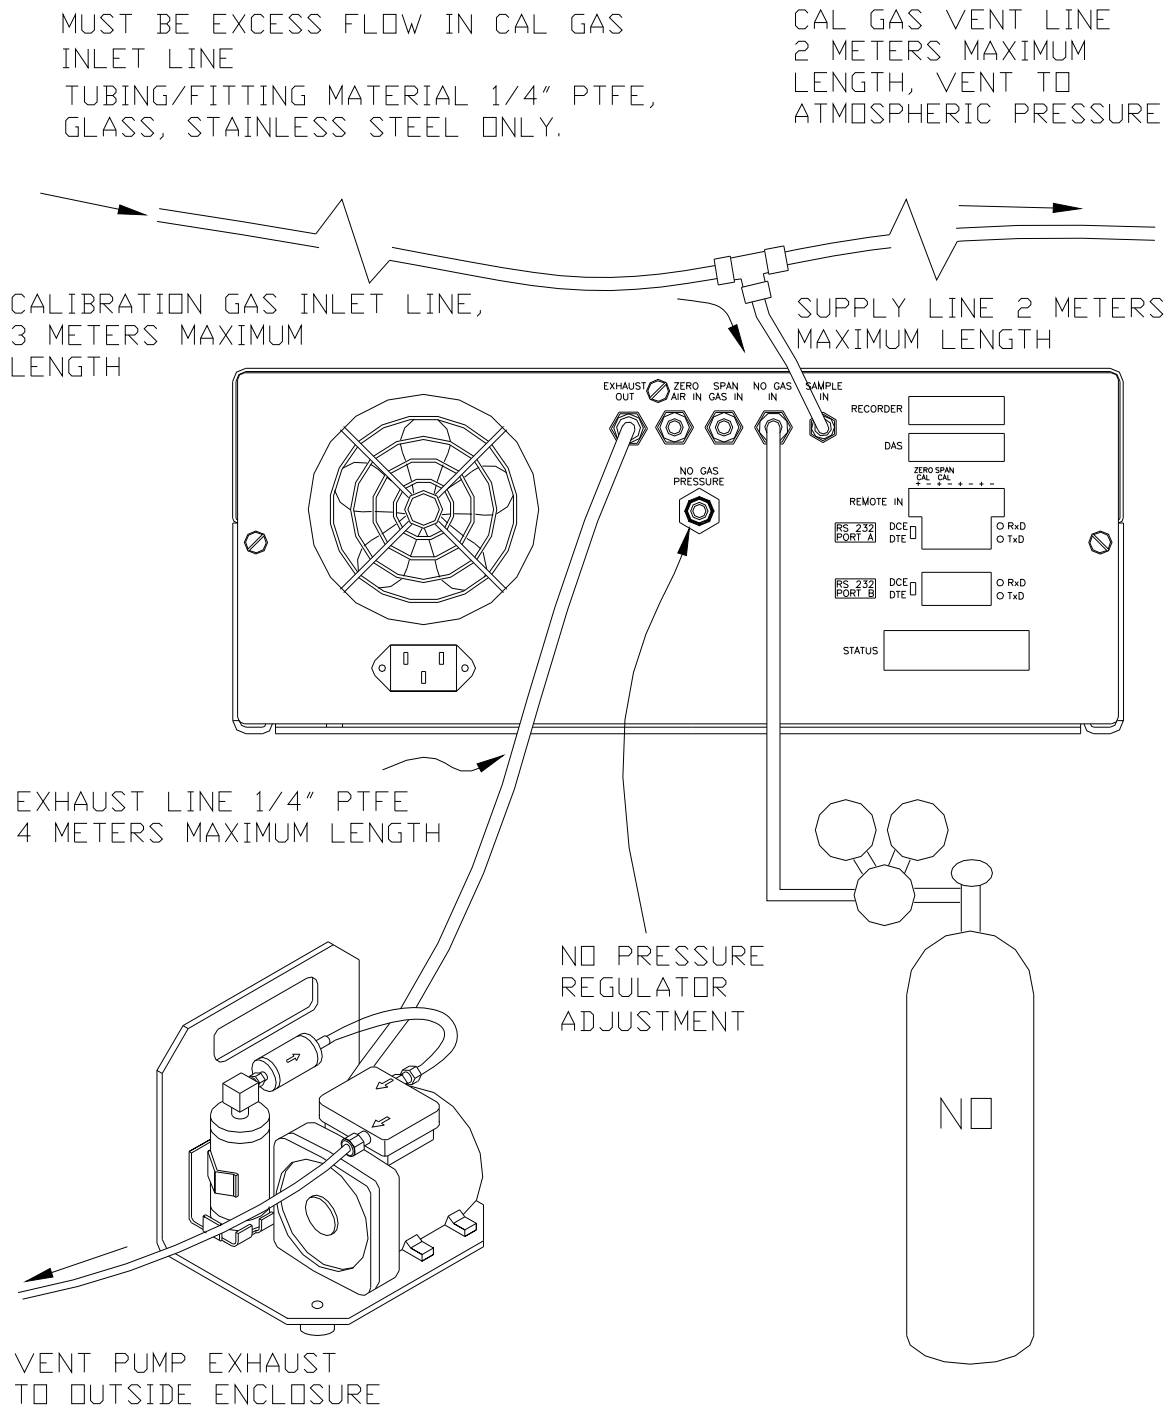

Figure 1-3: Inlet and Exhaust Venting Recommendations
1. See Figure 1-2 and Figure 1-3 to locate the rear panel electrical and pneumatic connections.
3. Attach the sample inlet line to the sample inlet port. The pressure of the sample gas at the inlet port should be at ambient pressure and constant. See Figure 1-3.